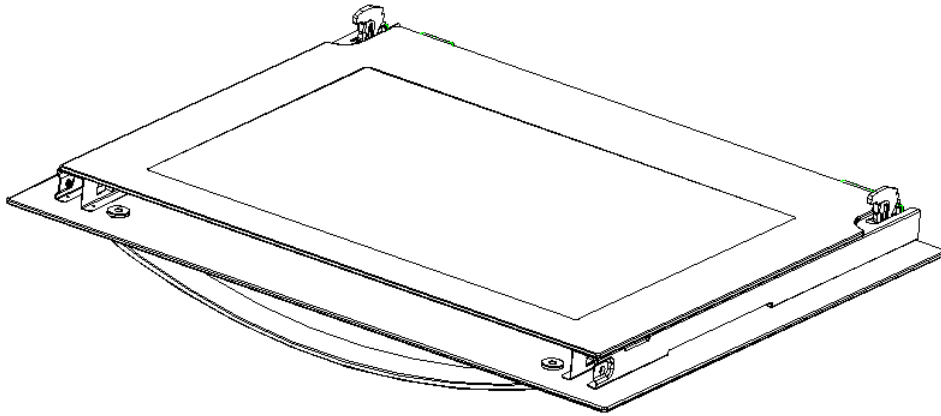

Figure 6
2. To move out the beam, as shown in figure 6